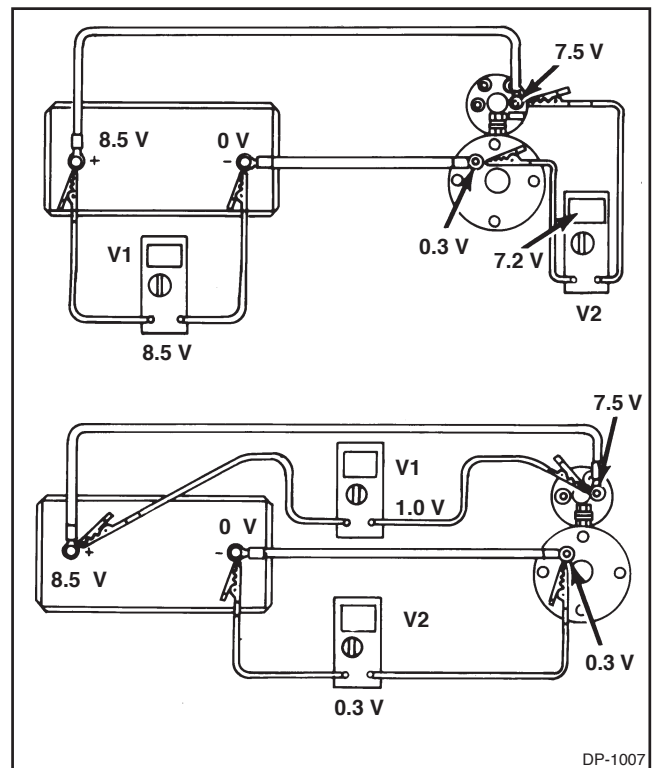

Figure 1-7. Voltmeter Readings With Current Flow
2. Figure 1-7 shows the voltmeter being used with current flow (starter pulling 500 amps).
The V1 reading (See Figure 1-7) means that with 500 amps flowing through the positive cable there is a 1.0 volt drop in that cable. There must be current flow in order to produce a voltage drop. The V2 reading (See Figure 1-7) of 0.3 volt means that with 500 amps flowing through the negative cable there is a 0.3 volt drop in the negative cable.